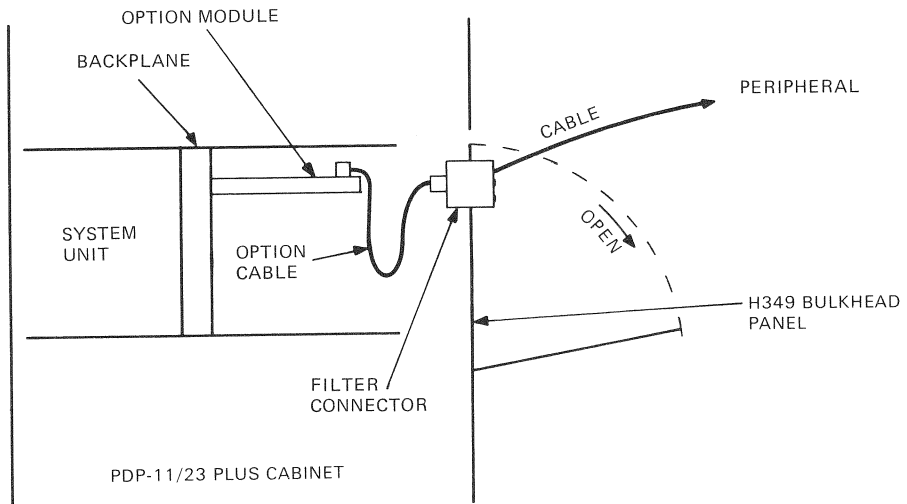

Figure B-11 PDP-11/23 PLUS Internal Cabling
- Connect the internal option cable(s) from each option module to the rear of the I/O distribution panel as diagrammed in Figure B-11.